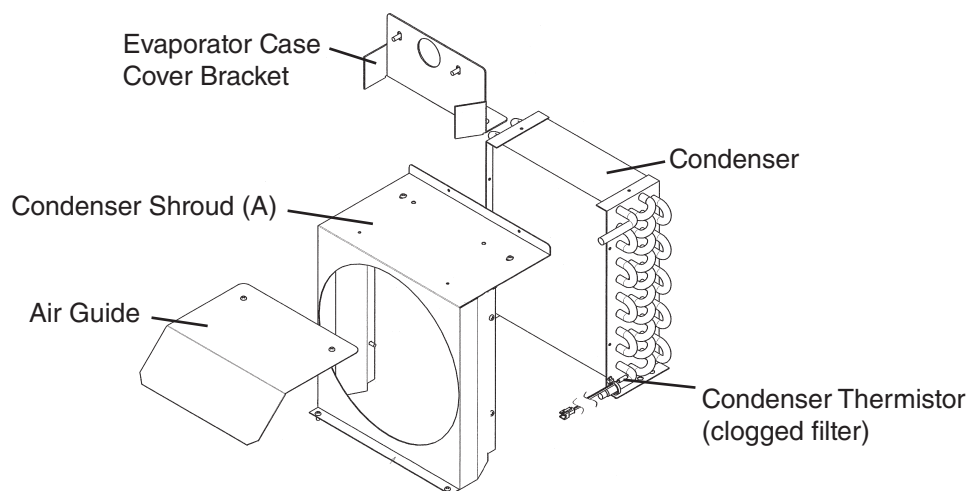

Fig. 4
- 7) Remove the air guide, evaporator case cover bracket, and condenser shroud (A) from the old condenser and attach it to the new condenser. See Fig. 4.